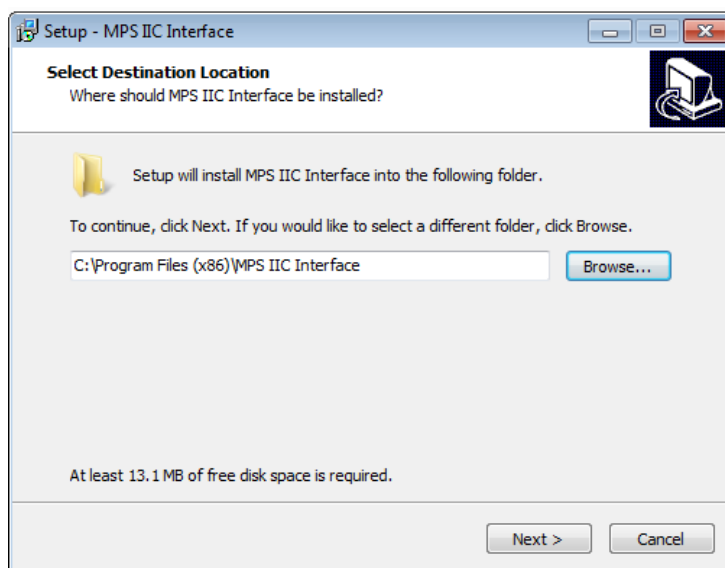

Figure 4: MPS I²C GUI Set-Up Guide
3. Once the download has completed, double-click the .exe file to open the set-up guide (see Figure 4). If a protection window comes up, click “More info,” then click “Run anyway.”